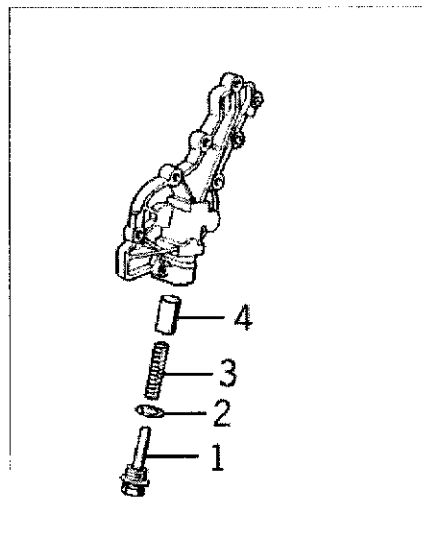

Figure 2
- 4 Lightly oil the **new** control piston and use a **new sealing ring**, Part No. 996.107.123.50 (⇒ *Figure 2-Item 2*).
- 5 Install the new control piston as shown in ⇒ *Figure 2*.